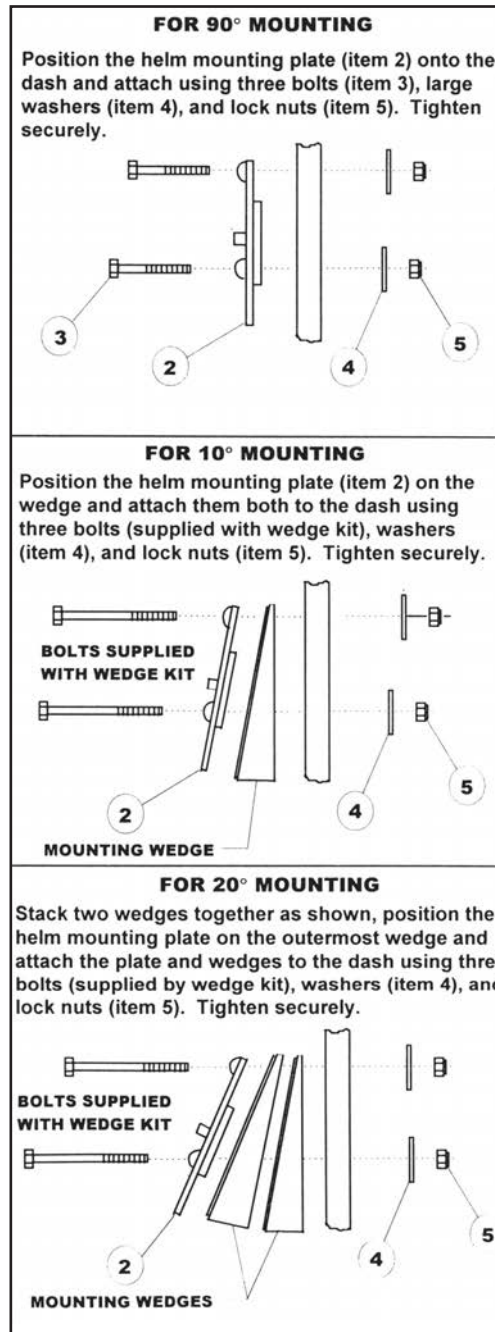

Figure 3.
**STEP 1.** Attach the helm mounting plate (supplied with the SB39544P Bezel Kit along with mounting hardware) to the dash as described in Figure 3.